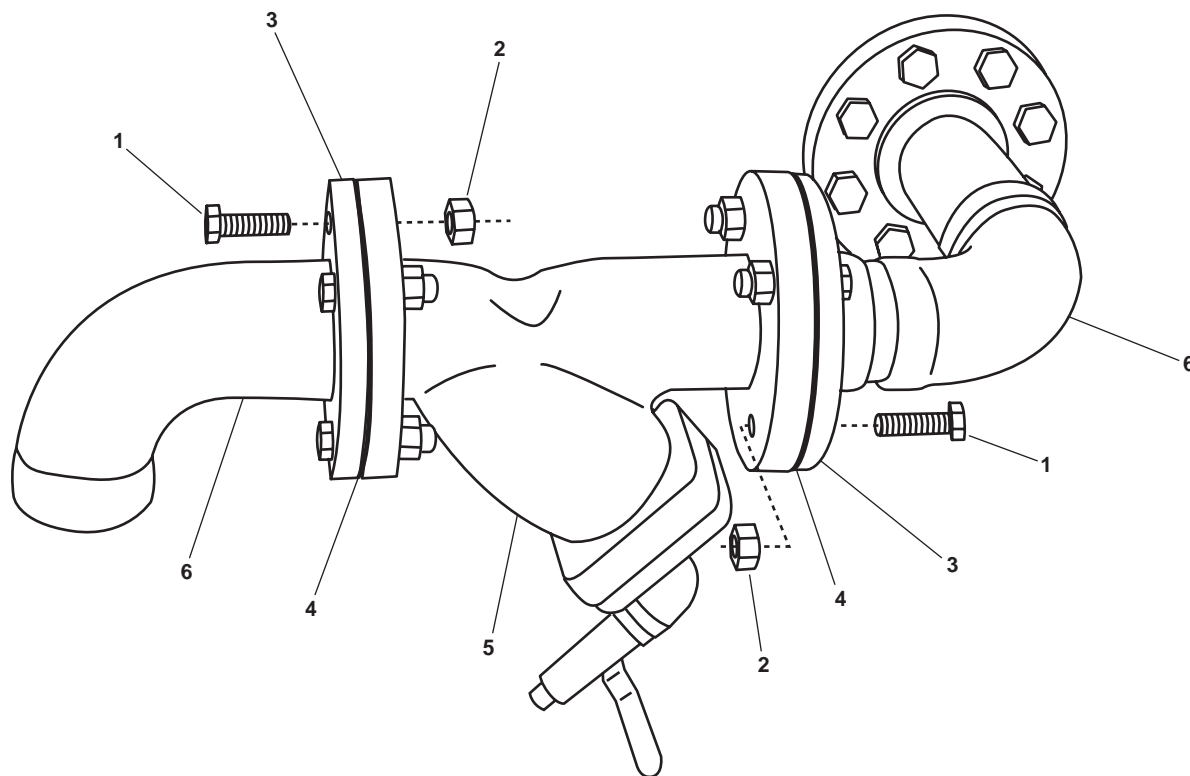

Figure 3. AFFF Pump Inlet Strainer-Replacement
1. Remove the four bolts (figure 3, item 1) and four nuts (figure 3, item 2) from each of the flanges (figure 3, item 3).
2. Remove and discard the gaskets (figure 2, item 4) located within each of the flanges (figure 3, item 3).
3. Remove the strainer assembly (figure 2, item 5) from the piping (figure 3, item 6).
4. Thoroughly clean the flanges (figure 3, item 3).
1. Position the new strainer assembly (figure 3, item 5) to the piping (figure 3, item 6) with the new gaskets (figure 3, item 4), and loosely secure with the four bolts (figure 3, item 1) and four nuts (figure 3, item 2) for each flange (figure 3, item 3). Loosen the clamp on the section line as needed.
2. Ensure that the flanges (figure 3, item 3) are aligned before tightening the bolts (figure 3, item 1).
3. Tighten the four bolts (figure 3, item 1) on each flange (figure 3, item 3).